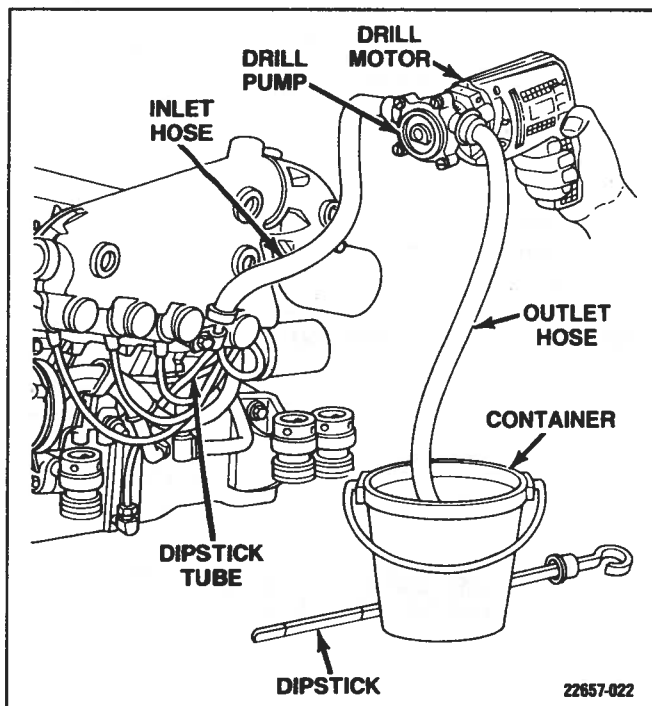

Figure 3-3. Oil Removal
4. Using a pump, suck engine oil from the engine through the dipstick tube. (See directions on pump used.) (Figure 3-3)